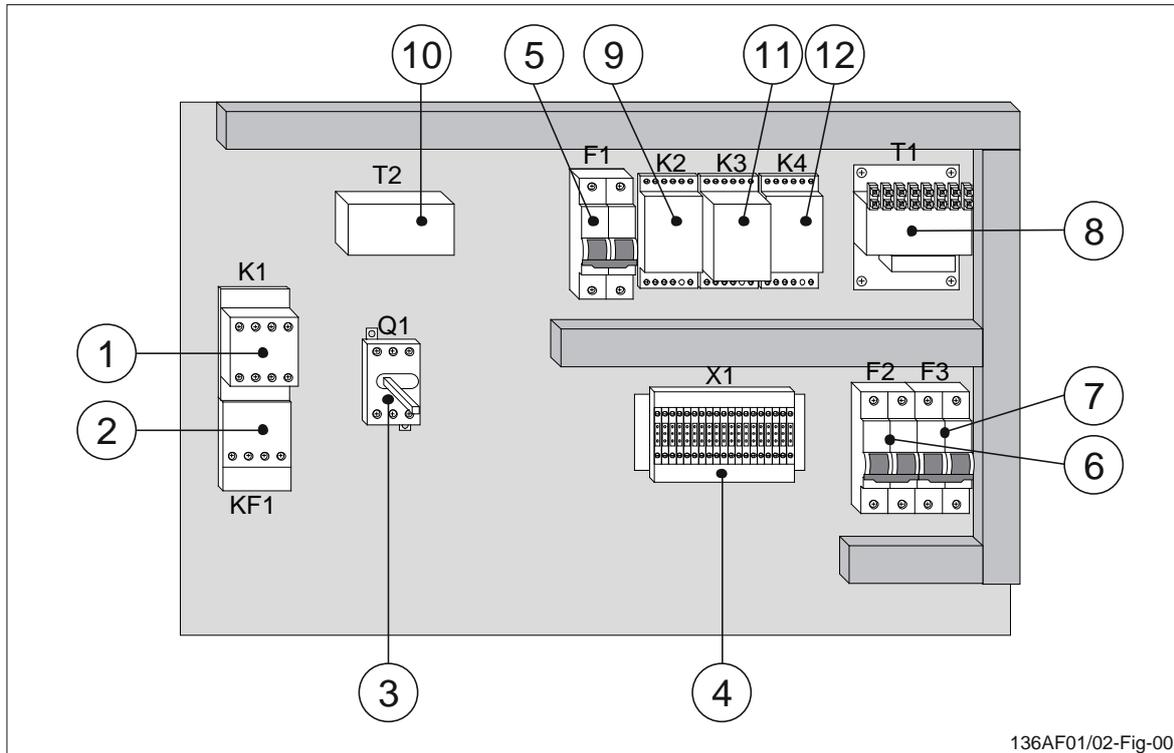

Figure 3 Internal equipment of pump motor starter P1 and P2.
With the remote/local switch S2 in LOCAL position and switch stop/run S1 (4, figure 1) in RUN position the main contactor K1 (pos 1, figure 3) is activated and the pump motor will run.
With the remote/local switch S2 in LOCAL position and switch stop/run S1 (pos 4, figure 1) in RUN position main contactor K1 (pos 1, figure 3) is activated and the pump motor will run.